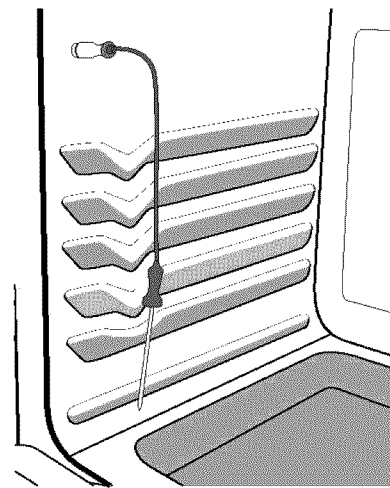

Fig. 2
2. Plug the probe COMPLETELY into the probe receptacle inside the oven and close the door -p. 28, Fig. 2-